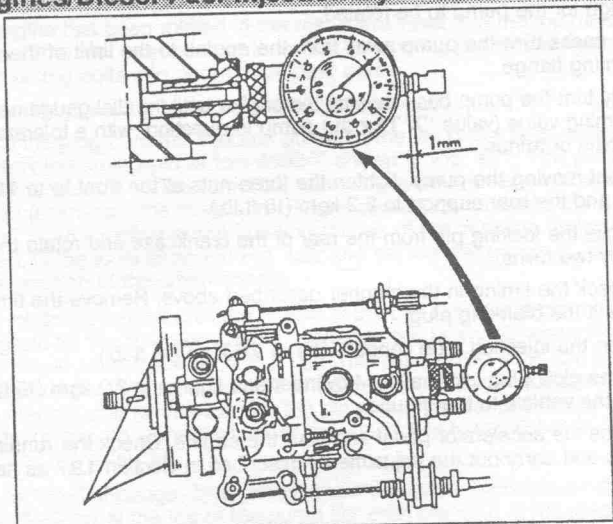

Fig. 1.83. — Tools fitted to the rear of the Bosch injection pump to adjust the injection timing. The arrows point to the securing screws.
- Fit the dial gauge 3089-T with the extension bar 2438-T. and support clamp 7010-T. to the rear of the injection pump in place of the removed plug and pre-load the dial gauge by 1.0 mm, i.e. the dial gauge plunger must be under tension. Fig. 1.83 shows how the special tools are arranged.
- Establish the top dead centre position of the No. 4 cylinder by turning the crankshaft to and fro until the maximum lift is obtained, i.e. the needle of the gauge shown in Fig. 1.83 no longer moves. The stylus should have a pre-load of approx. 1 mm.
- Remove the pump attachments at the front (arrows, Fig. 1.83) and at the rear